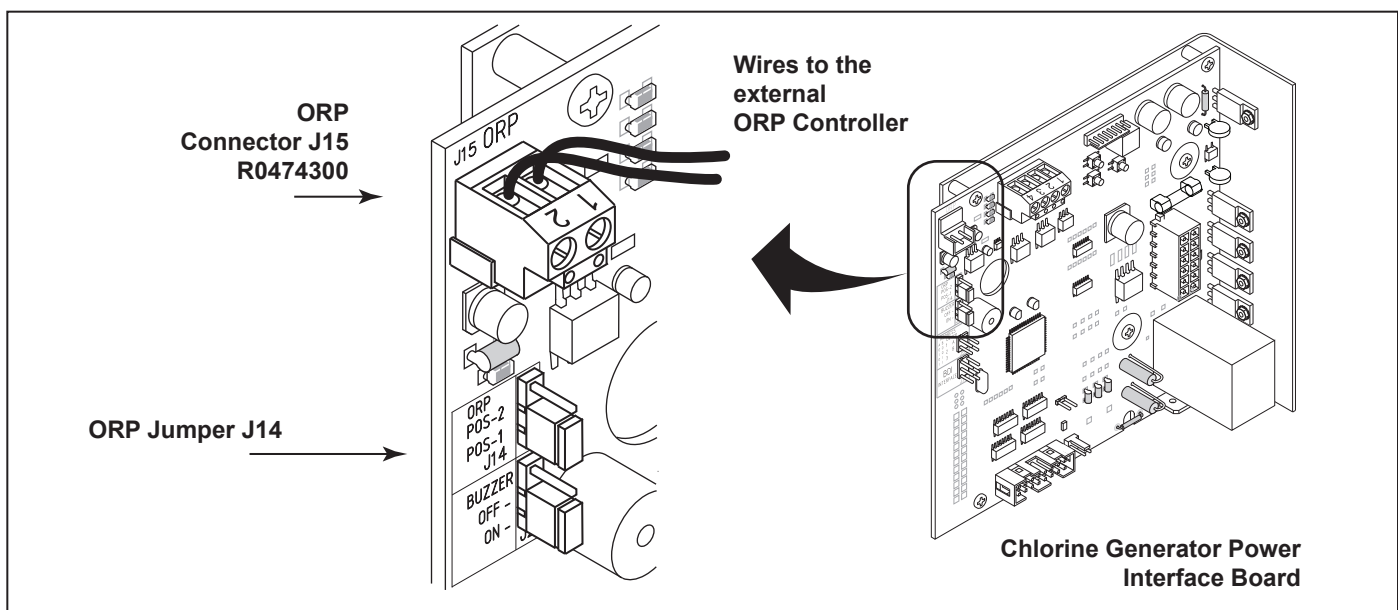

Figure 17. Movable ORP Jumper J14
An external device such as an ORP (Oxidation Reduction Potential) controller supplying 24 Volts AC can be used to control the output of the chlorine generator. The chlorine generator Power Interface Board (PIB) can be set up in the field to operate in two (2) different modes. The mode of operation is determined by the position of a movable jumper J14. See Figure 17 for location.